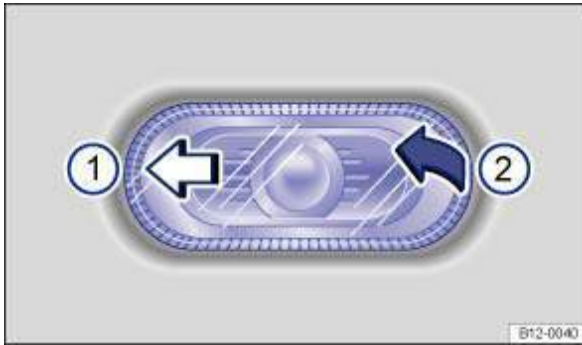
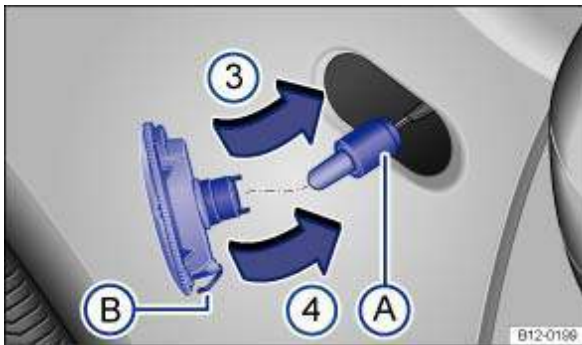

Fig. 221 Removing the side turn signal bulb
Fig. 222 Side turn signal: changing the bulb
2.	With one hand, push the side turn signal to the front → <a href="#">Fig. 221</a> ① .
3.	Manually lever the side turn signal out of the vehicle body ②.
4.	Pull out the bulb holder → <a href="#">Fig. 222</a> ④ with the bulb.
8.	Insert the side turn signal into the body, with the side facing the rear of the vehicle first ③ and push it into the body ④ until you hear that the spring has engaged ⑤.